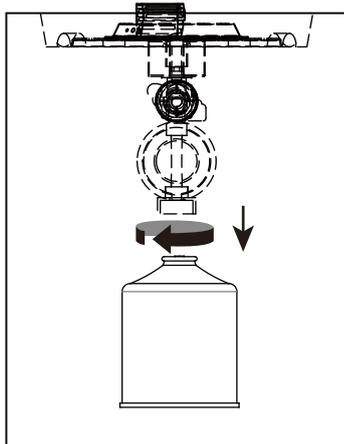

Figure 3
- (1). Turn the control knob to the “OFF” position.
- (2). Rotate cylinder counterclockwise until it is loose (see Figure 3).
- (3). Remove the cylinder.
- (4). Store the cylinder in a proper location.
- (5). Place the protective cap cover on the cylinder and store the cylinder outdoors in a well ventilated area out of direct sunlight.